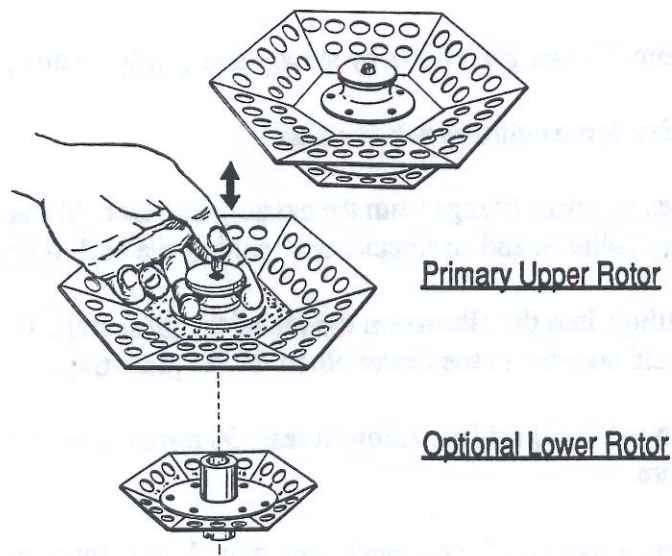

Figure 2
- (1) Unpack and clean the rotor(s). If the dual rotors are used, install the smaller rotor on the shaft and rotate until the slots on the bottom of the rotor engage the pin in the shaft.
- (2) Place the top rotor over the shaft. Gently push down on the rotor button once to engage and hold the rotor (Figure 2)
- (3) If the rotor does not have the chrome colored button in the top, place the rotor over the shaft and lower it into position. Rotate it until the slots on the bottom engage the pin in the shaft.